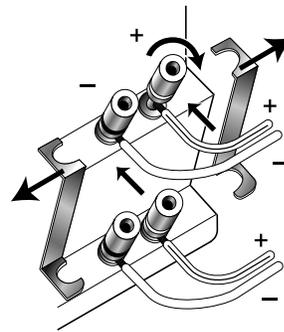

Figure 9. Loosen the terminals and remove the strapping bars that connect the two sets of terminals.
2. Loosen the terminals and remove the strapping bars that connect the two sets of terminals (Figure 9).